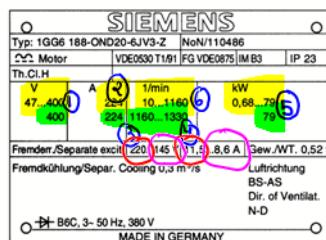

Figure 3.16: Nameplate of a DC motor (Siemens AG)
- a. Use the rating plate in figure 3.16 to determine the rated values for armature voltage and current, excitation voltage and current, as well as power and speed.